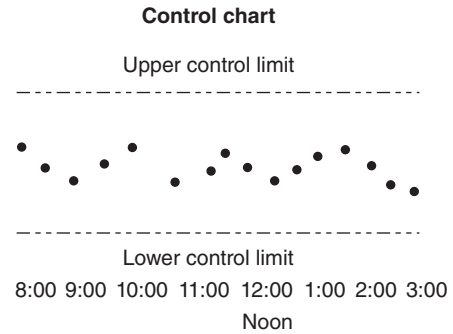

Figure 28-16 Control chart.
2. What does the control chart in Fig. 28-16 tell us?
3. Does the variation shown in Fig. 28-16 need to be corrected?
4. Identify some possible causes for the variation in Fig. 28-16.